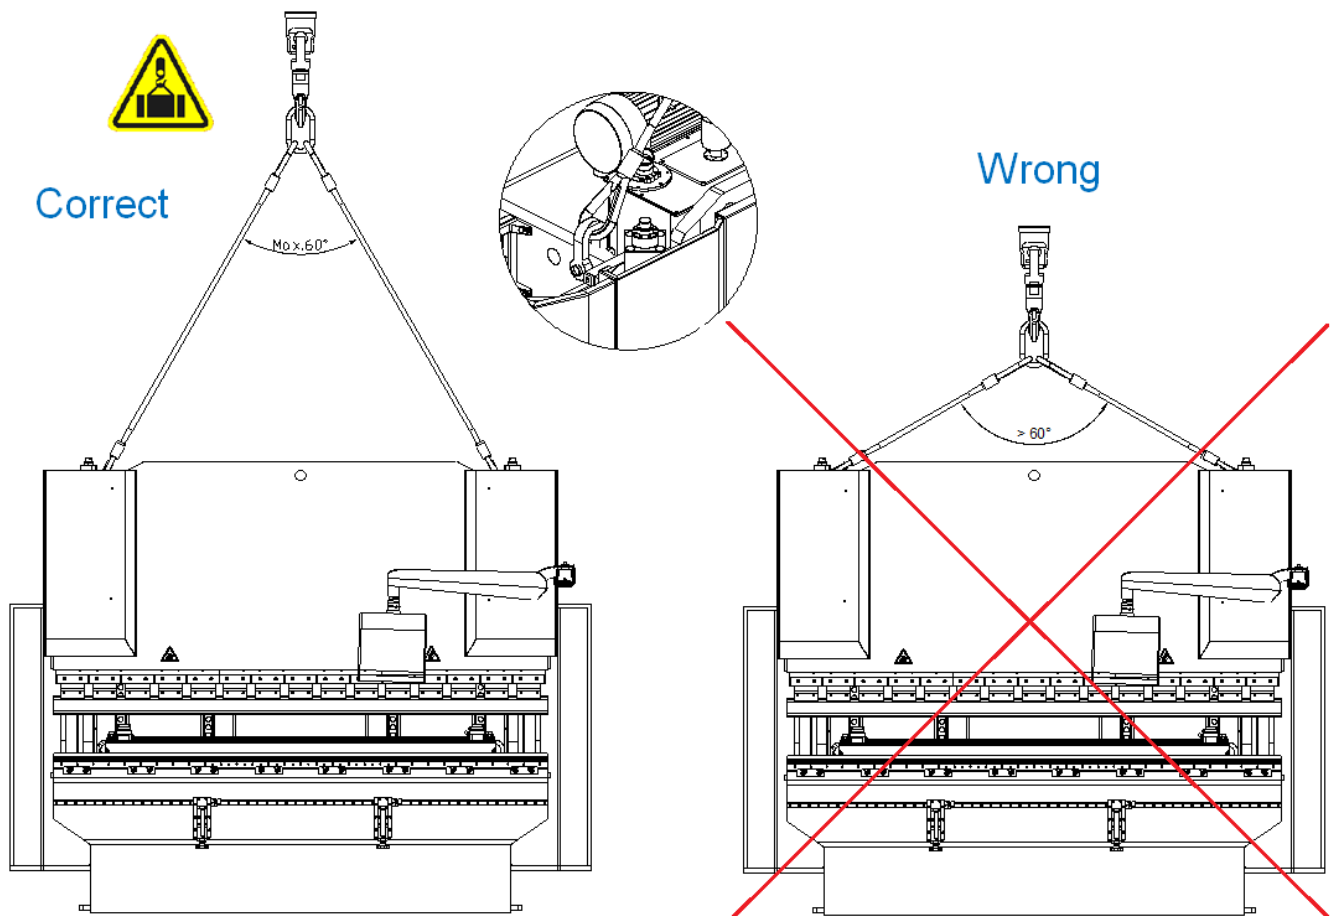

Figure-11
**Please consider during transportation: (See Figure-11)**